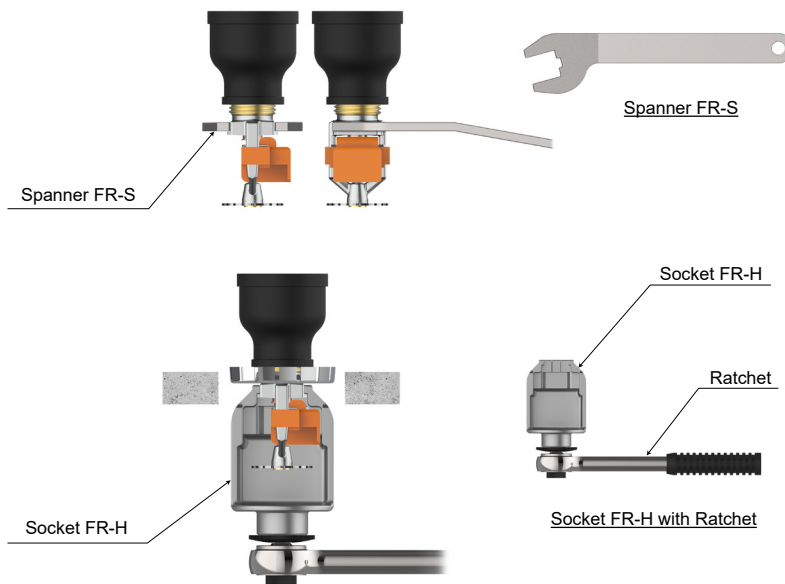

Figure 5: Installation (Spanner and Socket)
Step 3: Using the Socket FR-H (or FR-H II) or Spanner FR-S, tighten the sprinkler into the sprinkler fitting with a torque of 7 to 14 ft-lbs (9.5 to 19.0 N-m). (Ref. Figure 5) A 1/2" drive ratchet (not included) is required for use with the Socket FR-H (or FR-H II).